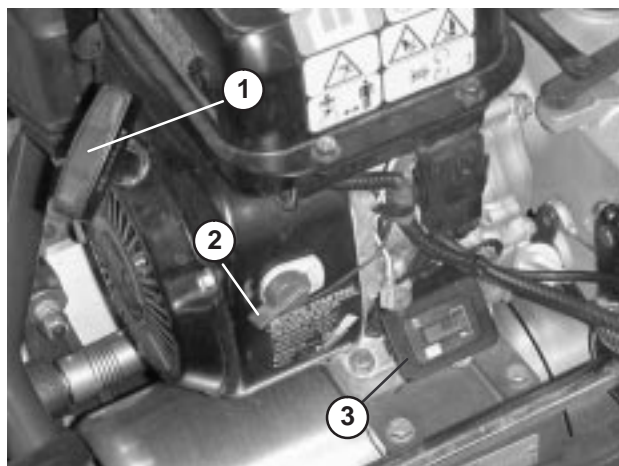

Figure 25
Pull recoil starter handle (Fig. 25) to start engine.
The on/off switch (Fig. 25) is located on rear of engine. Move switch to On position to start engine and Off to stop engine.
The hour meter (Fig. 25) located on rear of engine, indicates the total hours of machine operation.
3. Move on/off switch (Fig. 25) to On position.